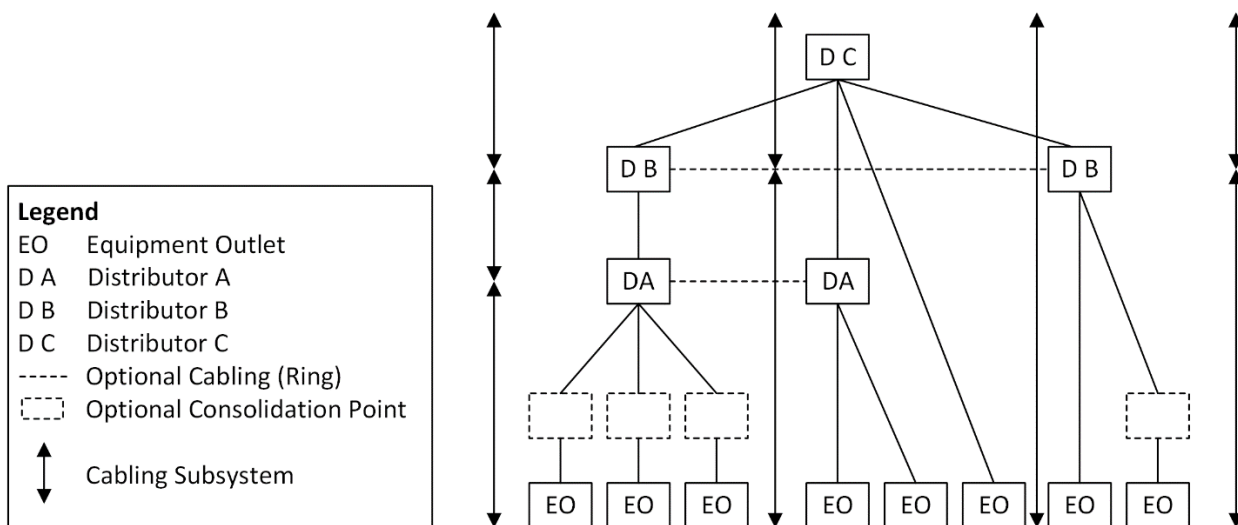

Figure 2a. Elements of generic cabling topology.
2. Structured Cabling—Structured cabling is a planned and designed installation divided into subsystems (Figure 2a). The system follows TIA-1005 *Telecommunications Infrastructure Standard for Industrial Premises* and ISO/IEC-24701 *Information Technology—Generic Cabling - Industrial Premises*.
Table 1 highlights the differences in cable jacket construction and the protection it provides. By following the TIA-1005 MICE environmental designation for the various manufacturing areas (i.e., distributors), a structured cabling approach accommodates various cabling types best suited for the environment by subsystem (Figure 2a). For example, a production environment with the highest M₃ value (Mechanical on a scale of 1-3, with 3 being the harshest environment) due to flexing should use a high flex cable such as the Panduit IndustrialNet™ Category 5e SF/UTP copper cabling (see TIA-1005 for MICE explanation). A point to point cabling strategy does not accommodate optimized cabling by manufacturing area hazard because it may traverse many areas with varying degrees of harshness. In addition, the installer may need to use a point to point cabling jacket for the harshest traversed area, driving up deployment costs. A worse scenario is if the installer uses a lesser cable jacket to address an underestimated hazard.